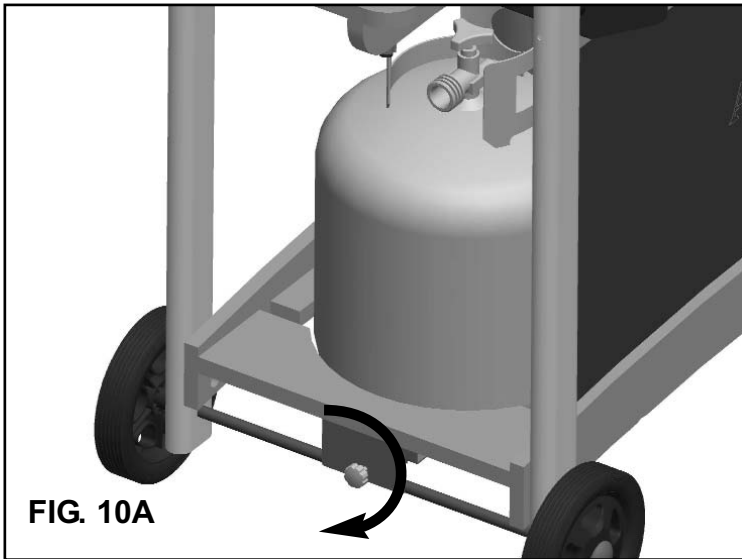

FIG. 10A
- 3) Set bottom ring of LP cylinder into support bracket through round hole in bottom shelf. (FIG. 10A)